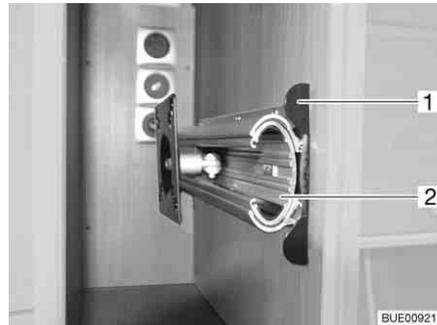

Fig. 46 Holder in the TV cabinet
- Push the unlocking bar (Fig. 46,1) in.
- Pull out the extension (Fig. 46,2) as far as possible.
- Push in the extension (Fig. 46,2) until the unlocking bar (Fig. 46,1) engages.